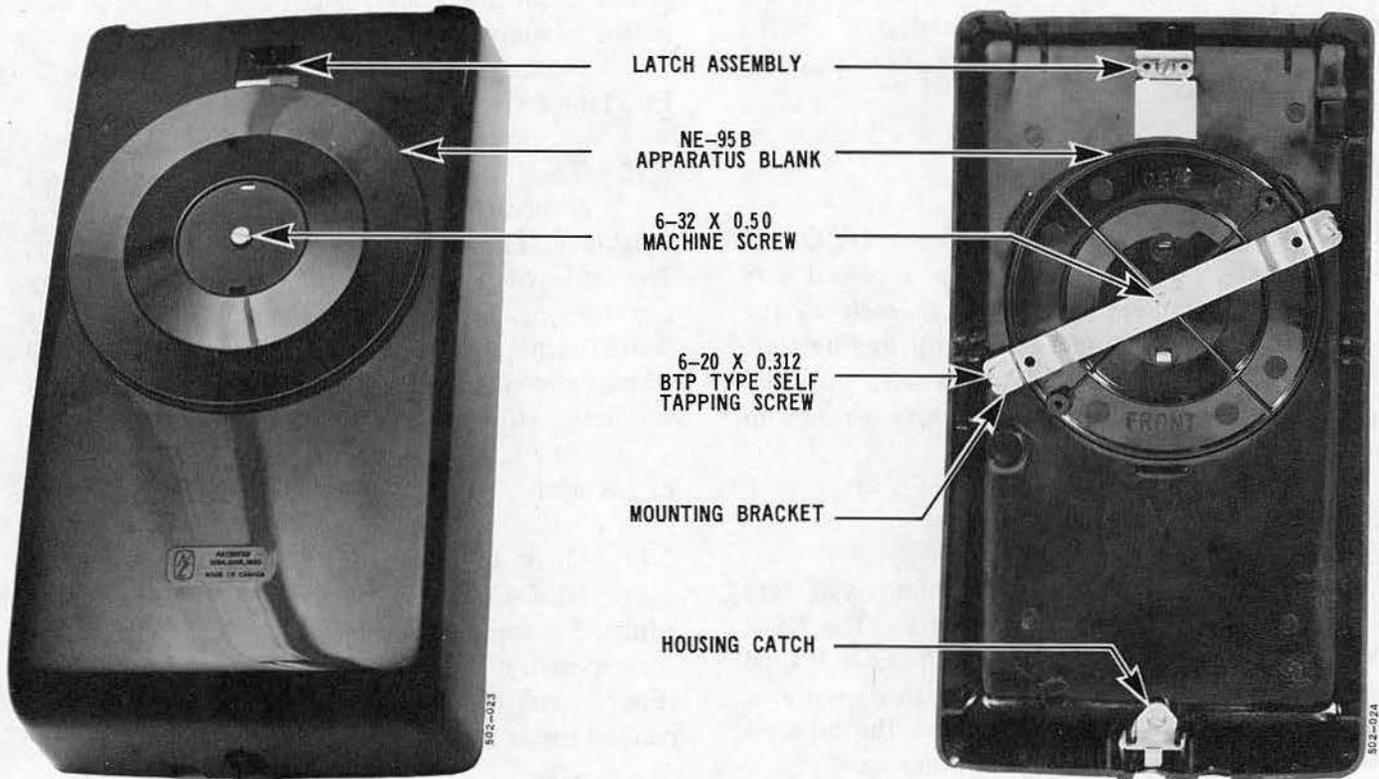

Fig. 6 - NE-554 Type Telephone Set Housing Equipped With an NE-95B Apparatus Blank
3.38 *NE-554AR*. The NE-554AR telephone set is identical to the NE-554BR telephone set, except the dial is replaced with an NE-95B apparatus blank, (Fig. 6), and the set is wired for manual service.